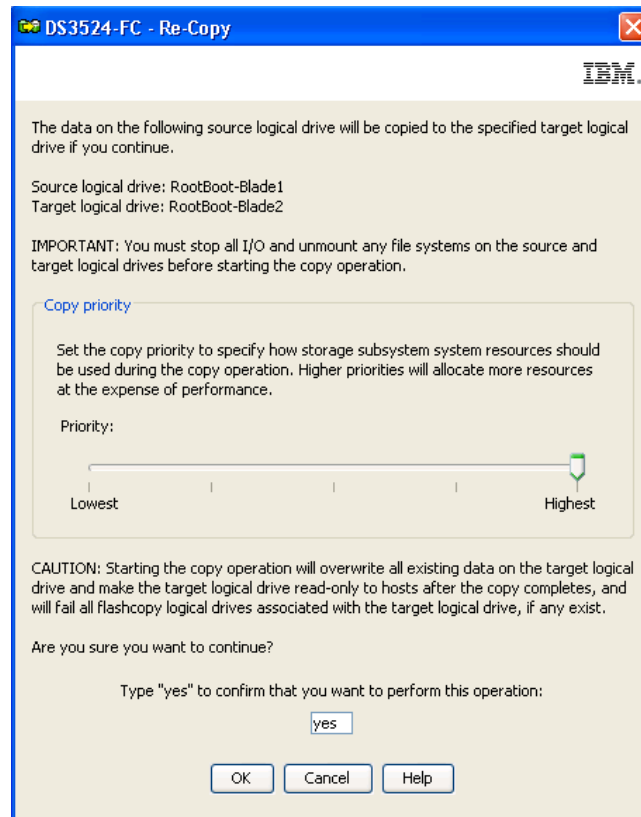

Figure 3-15 Re-copy window
5. Select **Copy** → **Re-Copy**. (Or right-click the copy pair and select **Re-Copy**.) The Re-Copy dialog opens, as shown in Figure 3-15.